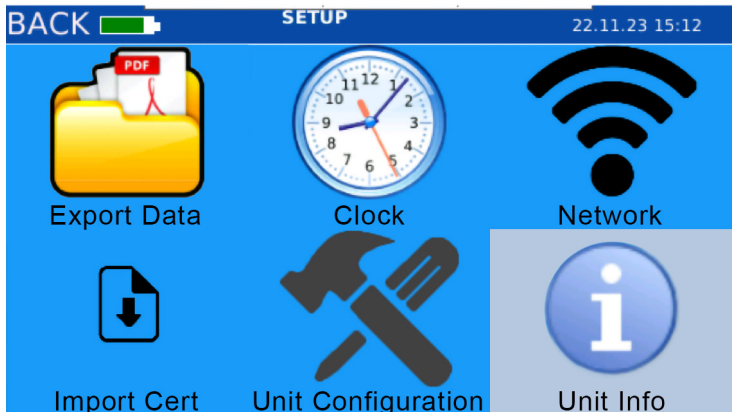

Figure 76. Select "Unit Info"
- 1. In the Setup menu, select **Unit Info** (Figure 76).